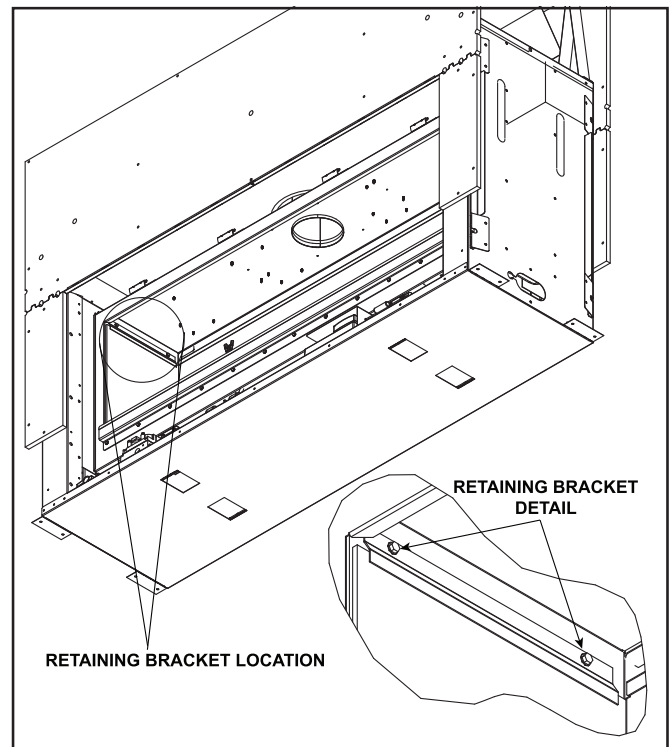

Figure 11.7. Retaining Bracket Installation - See-Through Models
- Bend the tab on the glass bracket toward the side glass panel until a 1/16 inch - 1/8 inch gap is created between the tab and the side glass panel. See Figure 11.7.
- Place retaining bracket over glass panel so holes in the bracket are against the firebox side. Use two self-drilling screws to secure the bracket to the firebox side. See Figure 11.7.